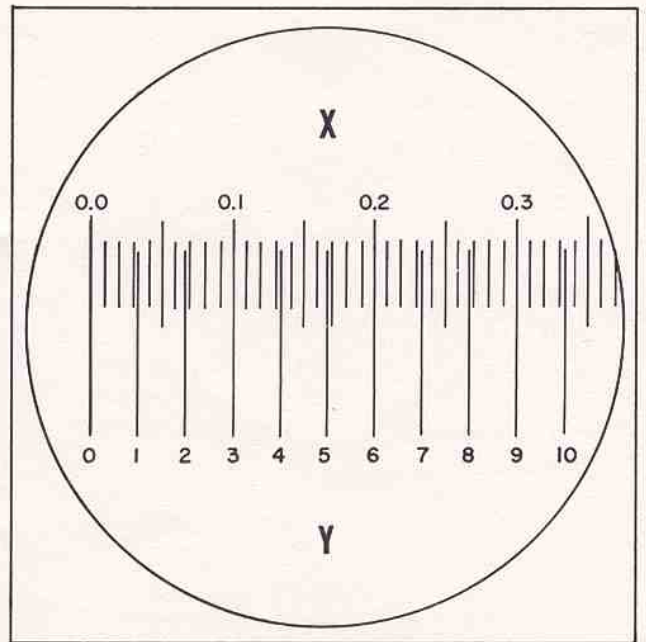

Fig. 4
2. Move the stage micrometer until one of the graduations corresponds exactly with one of the divisions of the micrometer reticle (figure 4).
3. Divide the true distance (X) seen on the stage micrometer by the number of divisions (Y) measured on the micrometer eyepiece ($C = X/Y$).
4. When taking measurements the number of divisions covered by the specimen multiplied by the calibration constant (C) gives the length of the specimen.